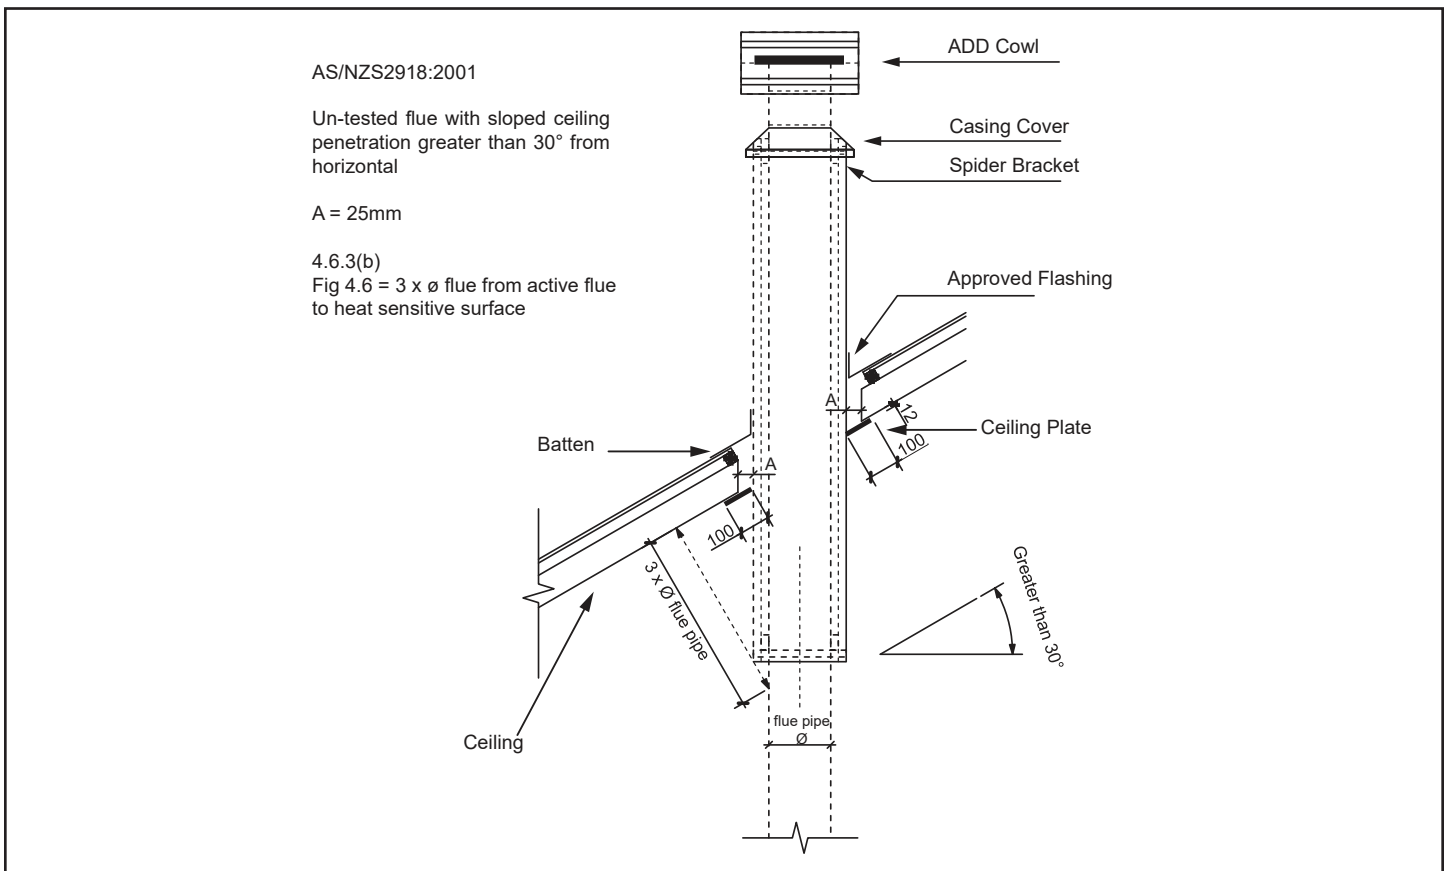

Figure 15.2
- Refer to **AS/NZS 2918:2001 4.9.1**, see **Figure 15.2**.